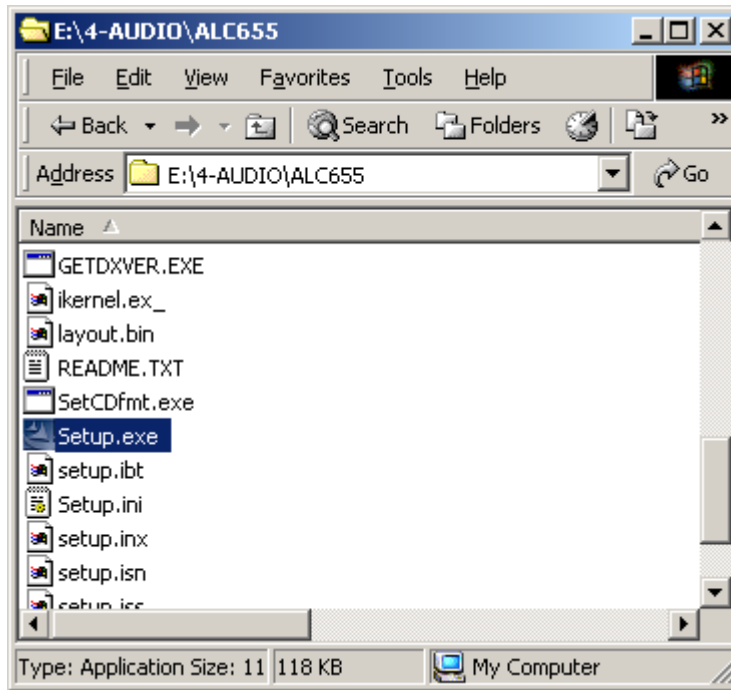

Figure 7-20: Locate the Setup Program Icon
Step 4: Double-click the **Setup.exe** program icon in Figure 7-20.